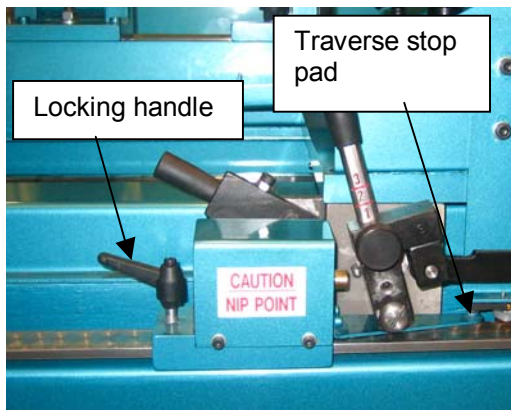

Figure 24 – left hand traverse stop
**To set the left hand traverse stop** move the wheel-head to the left hand side until the cylinder left hand edge just climbs over the tip of the finger guide (Fig 23). Now slide the left hand traverse stop along its rail until the traverse stop pad illuminates the LED sensor 1 (Fig 24/25).
Bring the left hand traverse stop along its rail until the LED sensor 1 attached to a bracket below the grinding head lights up. The sensor is energised by the traverse stop pad. Lock the end stop in position using the small locking handle (Fig 24). Check that there is no possibility of the grinding wheel coming into contact with the mower frame.